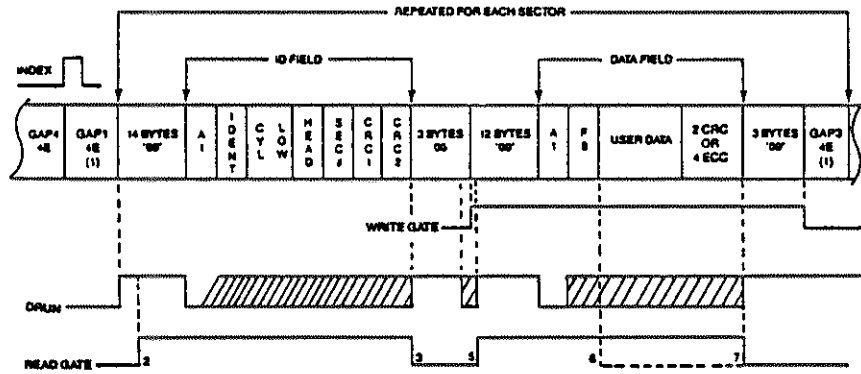

FIGURE 2-19. HARD DISK FORMAT
*1 Sync field: Figure 2-19 shows the hard disk format. The sync field exists at the beginning of the ID field and data field which consist of "00".